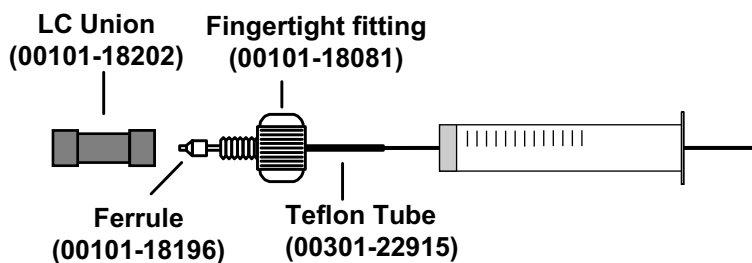

Figure 8-3. Syringe and syringe adapter assembly
- c. Remove the tip of the syringe needle from the end of the Teflon tube on the syringe adapter assembly. See Figure 8-3.